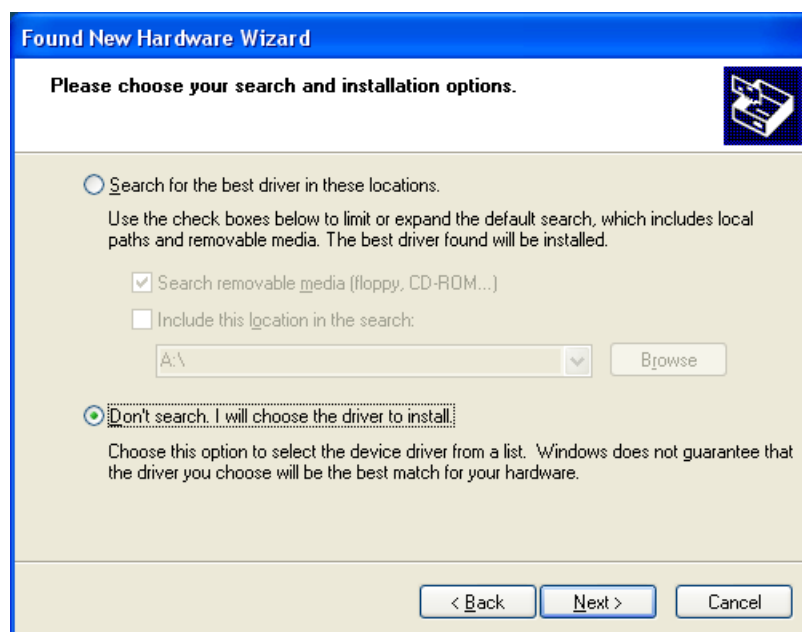

Fig. 2-8 Choose search and installation option
- 3) A dialog box as Fig. 2-8 will pop up. Select “Don’t search, I will choose the driver to install”, click [Next] to continue.